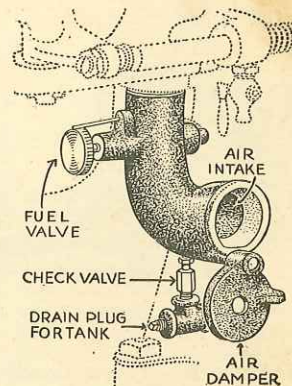

Figure 2.
**First.** Open the needle valve on mixer two full turns to the left, close the air damper (see Figure 2), turn on the oil by raising the lever on the lubricator and be sure the oil is dropping properly.